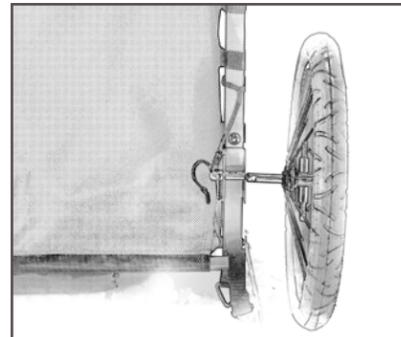

Figure 9
2. Position the wheel with the stub axle next to the hole in the left wheel bracket (Fig. 9).